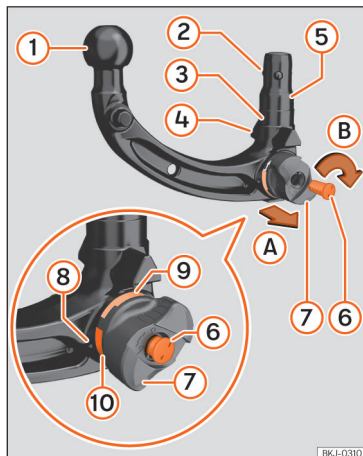

Fig. 153 Overview: removable tow hitch.
- ③ Locking mechanism (ball)
- ④ Centring guides
- ⑤ Stem
- ⑥ Key
- ⑦ Key slot cover
- ⑧ Thumbwheel
- ⑨ Green mark on the tow hitch
- ⑩ Red mark on the thumbwheel
3. Open the lock cover »» Fig. 153 ⑦ and insert the key ⑥ into the lock.
4. Turn the key ⑥ counterclockwise until the arrow on the key points towards the lock open symbol on the thumbwheel ⑧.
5. Hold the tow hitch with one hand. With the other, pull out the thumbwheel ⑧ in direction A.
6. Turn the extracted thumbwheel ⑧ in direction B as far as the stop.
8. Release the thumbwheel ⑧.